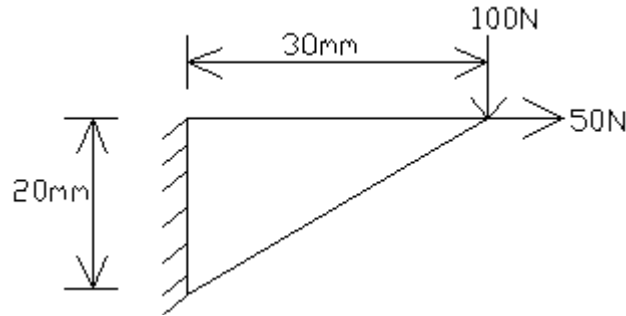

Fig. 4
4. For a triangular plate shown in the figure 4, determine the deflection at the point of load using one triangular element. Thickness is 10 mm , $E = 70 \times 10^3 \text{ MPa}$, $\mu = 0.3$ [12M]